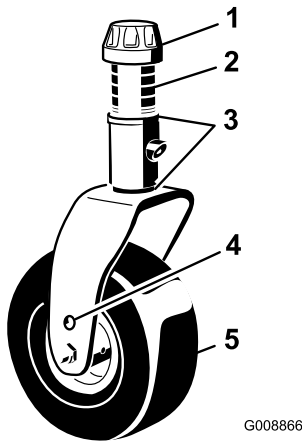
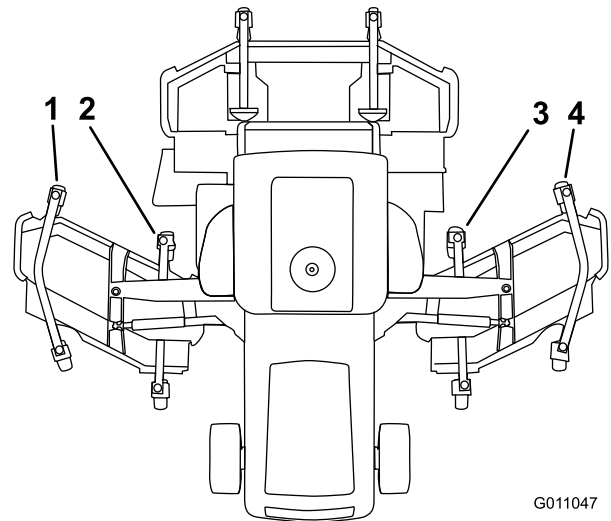

Figure 33
Figure 34
3. If the inside edge of the side cutting unit is too high relative to the outside edge of the front cutting unit, remove one 1/8 inch shim from the bottom of the front inside castor arm on the side cutting unit (Figure 33 and Figure 34). Recheck measurement between outside edges of both side cutting units and inside edge of side cutting unit to outside edge of front cutting unit.
4. If inside edge is still too high, remove an additional 1/8 inch shim from bottom of front inside castor arm of the side cutting unit **and** one 1/8 inch shim from the front outside castor arm of the side cutting unit (Figure 33 and Figure 34).
5. If the inside edge of the side cutting unit is too low relative to the outside edge of the front cutting unit, add one 1/8 inch shim to the bottom of the front inside castor arm on the side cutting unit (Figure 33 and Figure 34). Check measurement between outside edges of both side cutting units and inside edge of side cutting unit to outside edge of front cutting unit.